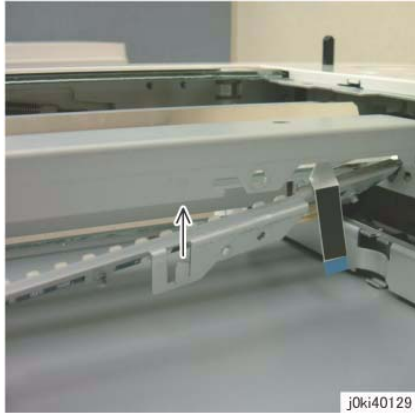

Figure 6 Use the hook of the LED Lamp
4. When installing the LED Lamp, affix the Full Rate Carriage by using the hook of the LED Lamp. (Figure 6)